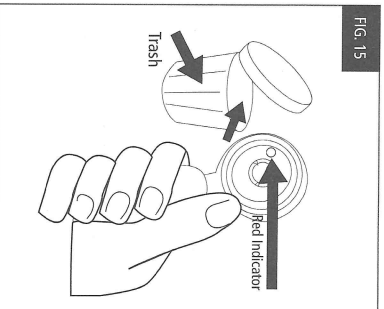

FIG. 16
6. Check that the new inflator body indicator is green. Insert the black inflator body and cylinder into the bladder (Fig. 16). Align the cylinder with the outline printed on the bladder (Fig. 17). Ensure that the inflator body is evenly contacting the sealing ring.